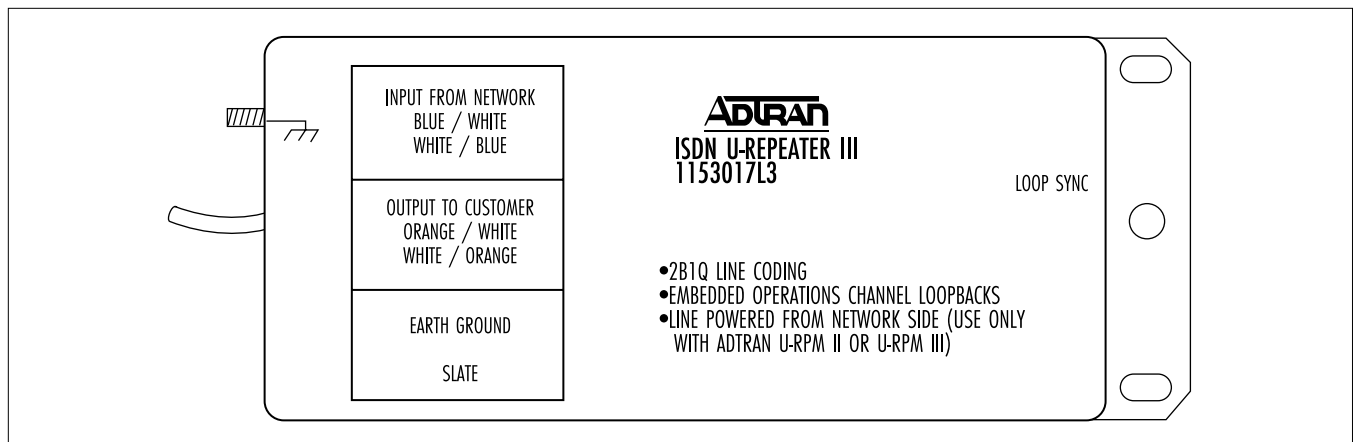

Figure 1. U-Repeater III Circuit Pack
1.1 This practice provides installation and maintenance procedures for the ADTRAN ISDN U-Repeater III. The circuit pack is shown in **Figure 1**. **Table A** provides the part number and the basic features of the unit. **Table B** provides the part numbers and lists the basic features of the equipment option for the U-Repeater III system.